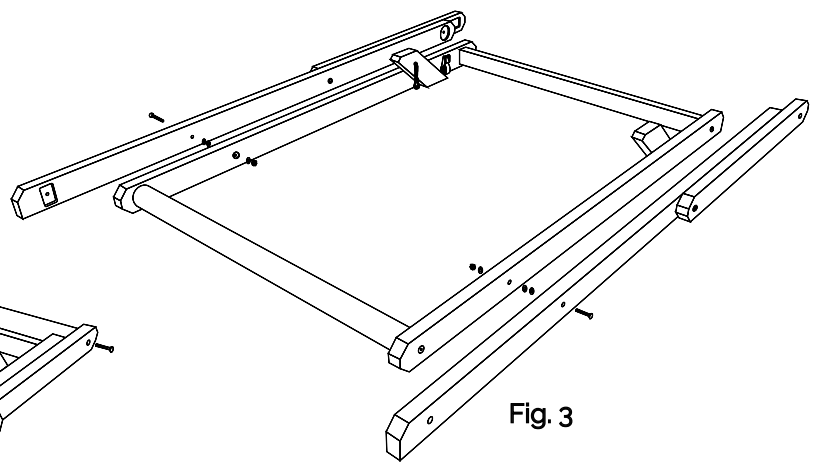

Fig. 3
7. Repeat **step 5.** to attach **Left Outer Leg I** and **Left Inner Leg F**, Fig 3.